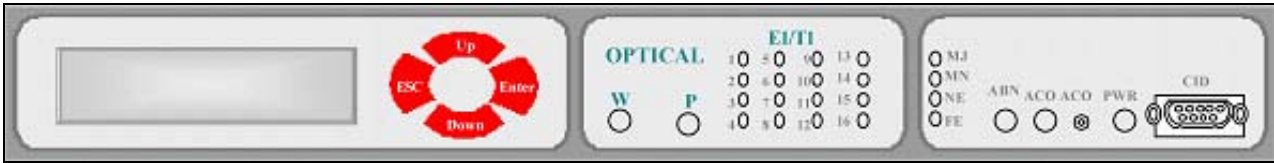
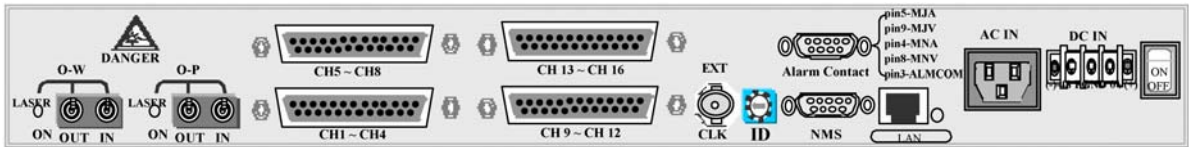

Fig. 1 FOM16 Front View
Fig.2 FOM16 Rear View
2.1 FOM16 is a standard 1 RU unit, which can be mounted on 19 or 23-inch rack. It also works as a desktop unit. The front view and the rear view are shown in Fig.1 and Fig.2, respectively.